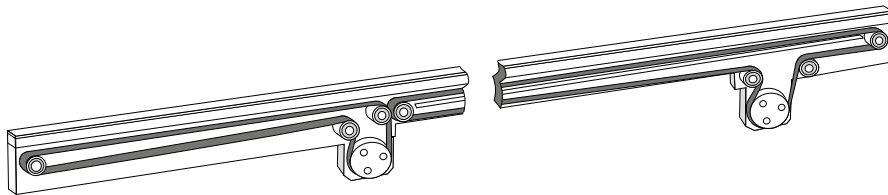

Figure 3-14
4. Carefully route a new belt around (shiny side in) the inside pulleys beginning with the large one. Consult the diagram in Figure 3-14 for the correct belt routing.